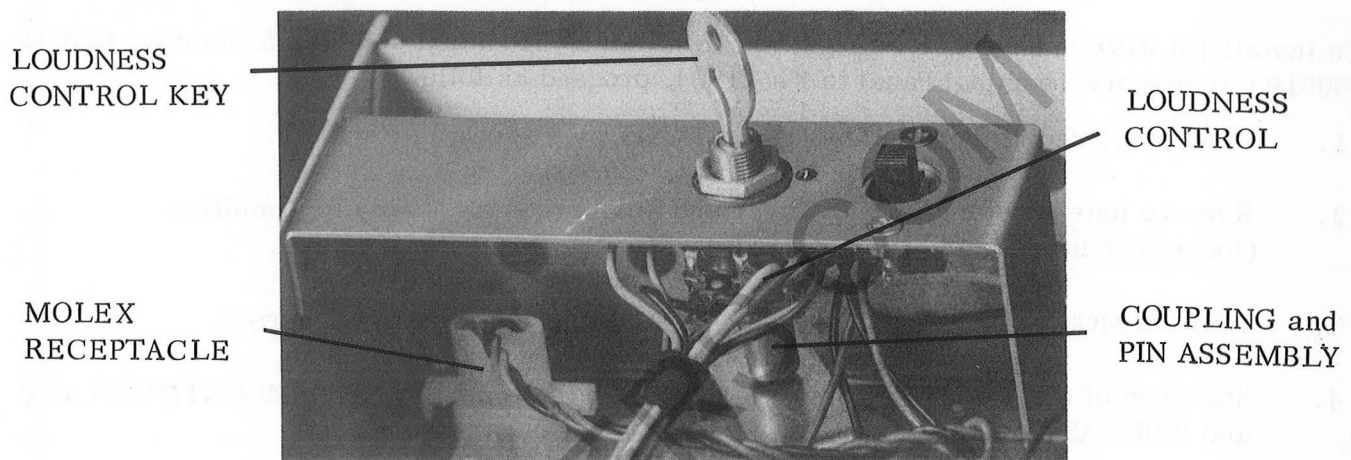

Figure 2.
6. Connect MOLEX RECEPTACLE as shown in Figure 2.
7. Install COUPLING and PIN ASSEMBLY between slotted shaft of the LOUDNESS CONTROL and slotted shaft of MOUNTING PLATE and WIRE ASSEMBLY as shown in Figure 2. Turn LOUDNESS CONTROL KEY as necessary to provide proper alignment. Remove LOUDNESS CONTROL KEY.